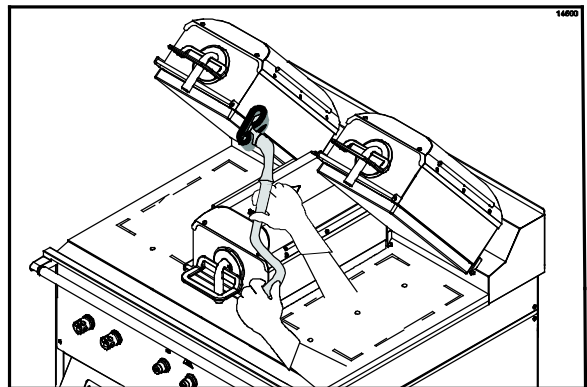

Figure 55
22. Apply grill cleaner to the inner edges of the right and left platens. (See Figure 55.)